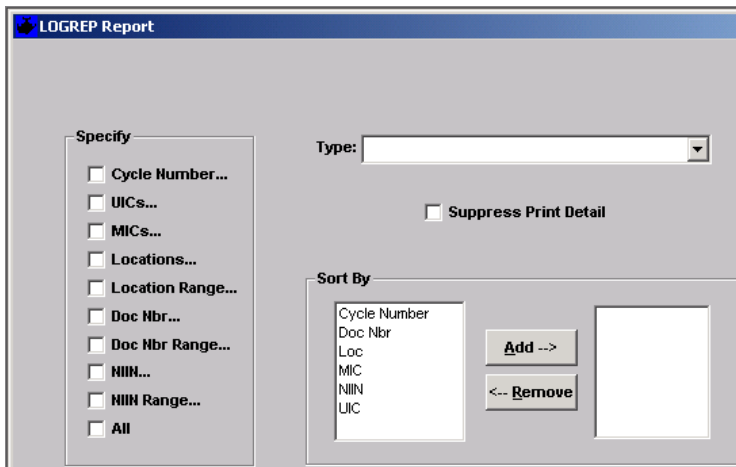

Figure 5.22
- 5.6.1 The **LOGREP Report** window (Figure 5.22) allows the user to schedule batch jobs for various reports that can be tailored based on the selection of multiple parameters.